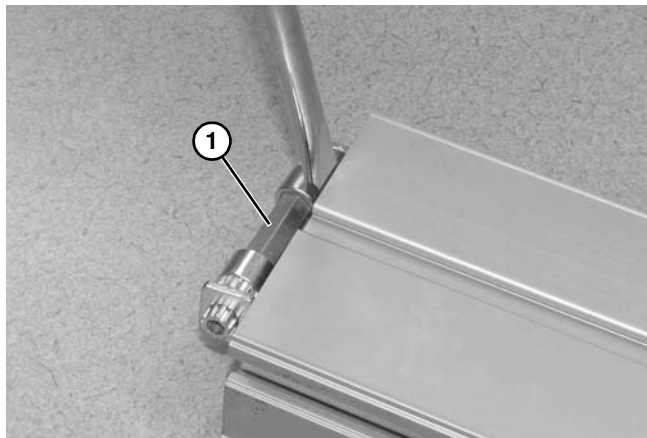

Figure 142
3. Pry pinion assembly (**Figure 142, item 1**) from conveyor frame by alternating sides.